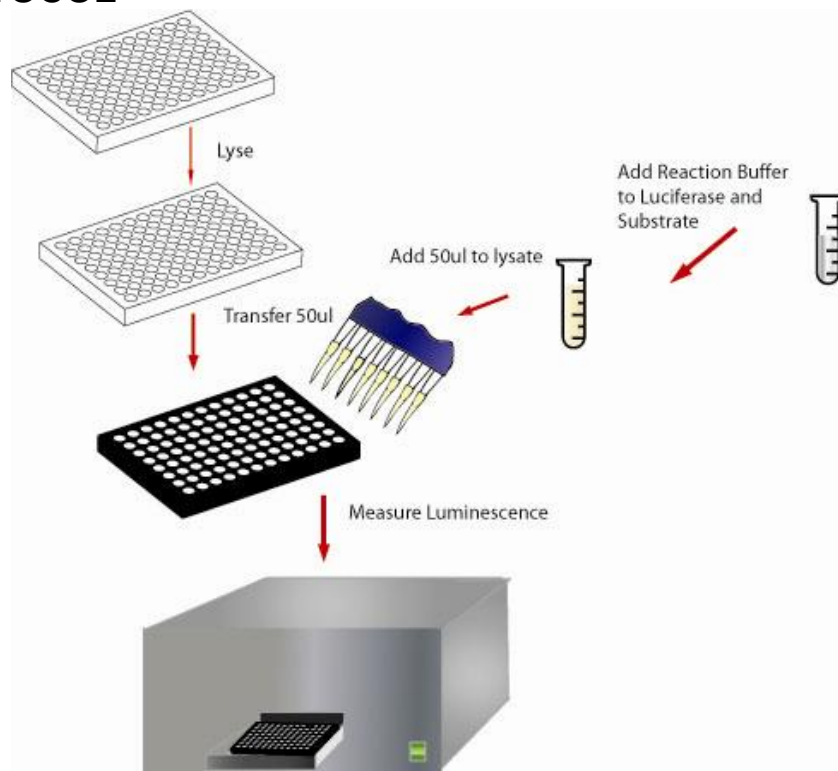

Figure 1. Diagram of assay flow.
4. Transfer 50µl of the cell lysate to a 96-well black-walled flat or round bottom microtiter assay plate (Use the cell lysis buffer as blank). Dispense 50µl luciferin/luciferase working solution per well, mix and read in a plate reader [time for integration: 1 second] using the instructions provided by your microtiter plate reader manufacturer (see Figure 1 assay flow).
5. Transfer 50 μ l cell lysate to a 96-well black walled assay plate (cell lysis buffer as blank). Dispense 50 μ l luciferin/luciferase working solution per well, mix and read with a microtiter plate reader [time for integration: 1 second] using the instructions provided by your microtiterplate reader manufacturer (Figure 1).
- Transfer 50 μ L of cell lysate to wells in a 96-well black-walled assay plate (Use 50 μ L of cell lysis buffer as blank wells). Dispense 50 μ L luciferin/luciferase working solution per well, mix and read with a plate reader [time for integration: 1 second] using the instructions provided by your microtiterplate reader manufacturer (Figure 1).